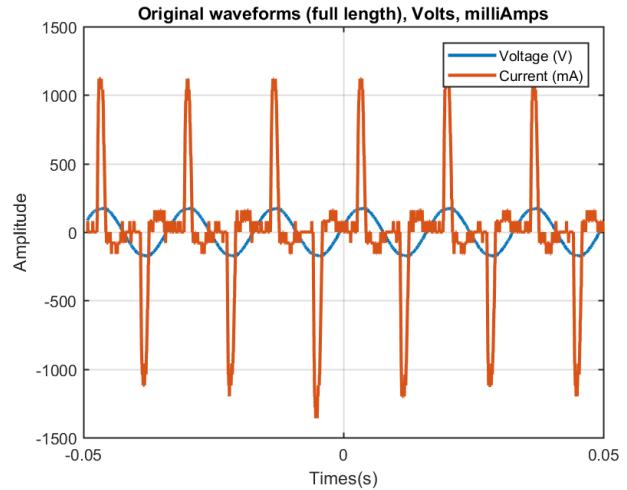

Fig. 7. Voltage and current waveforms of a non-linear load.
3) *Laptop (non-linear load)*: Finally, according to Figure 7, current signal of non-linear load do not present any sine shape. The current waveform present peaks more narrow than inductive peaks loads. Those peaks presents a high harmonic components of current signal.